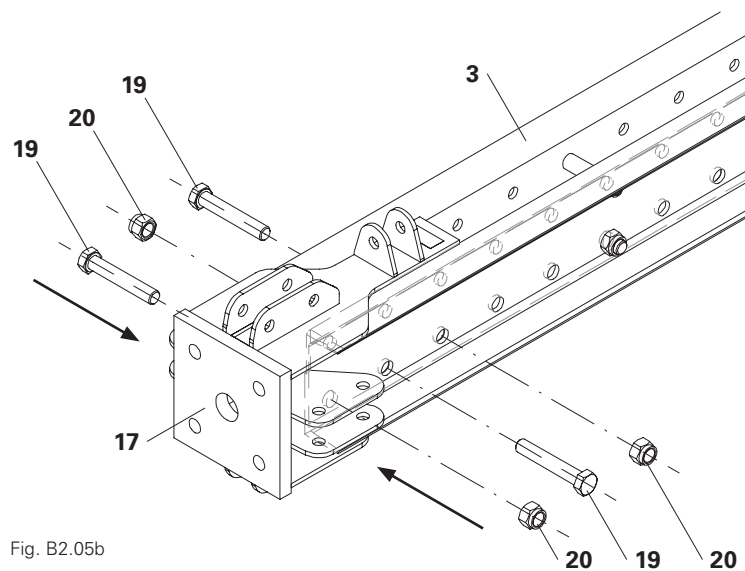
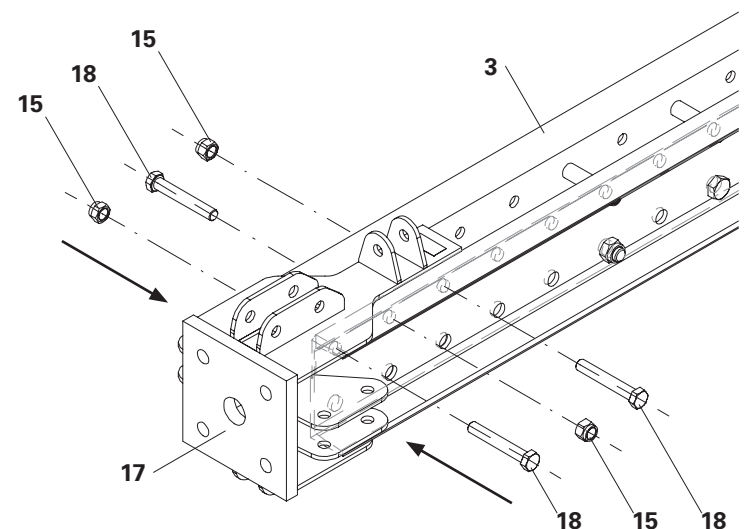

Fig. B2.05b
Fig. B2.05c
1. Insert prop base VST 48 (17) into the climbing rail RCS 248 (3)* on the side with the 5 free rows of holes.
2. Insert 1 x bolt ISO 4014 M20 (18) from the left-hand side.
3. Insert 2 x bolts ISO 4014 M20 (18) from the right-hand side.
4. Attach nuts ISO 7042 M20 (15) and tighten the connections.(Fig. B2.05b)
5. Insert 1 x bolt ISO 4014 M24 (19) from the right-hand side.
6. Insert 2 x bolts ISO 4014 M24 (19) from the left-hand side.
7. Attach nuts ISO 7042 M24 (20) and tighten the connections.(Fig. B2.05c)